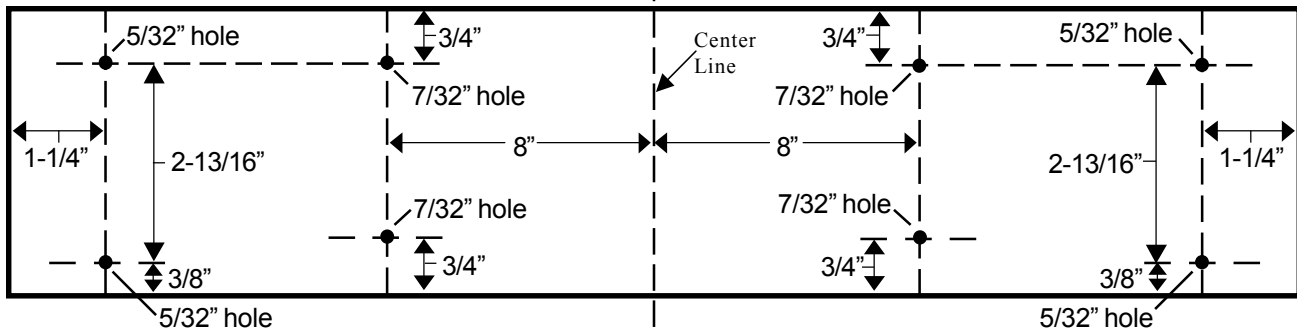

Fig. 2
screwdriver. Refer to Fig. 2 for proper Wall Bracket position on the Wall Bracket board.
7. Position the Wall Bracket board at the reference lines marked earlier on the wall. Have a helper hold the Wall Bracket board in place while you attach it to the wall studs using four #10x2" Phillips Head Pan screws (4). See Fig. 2.